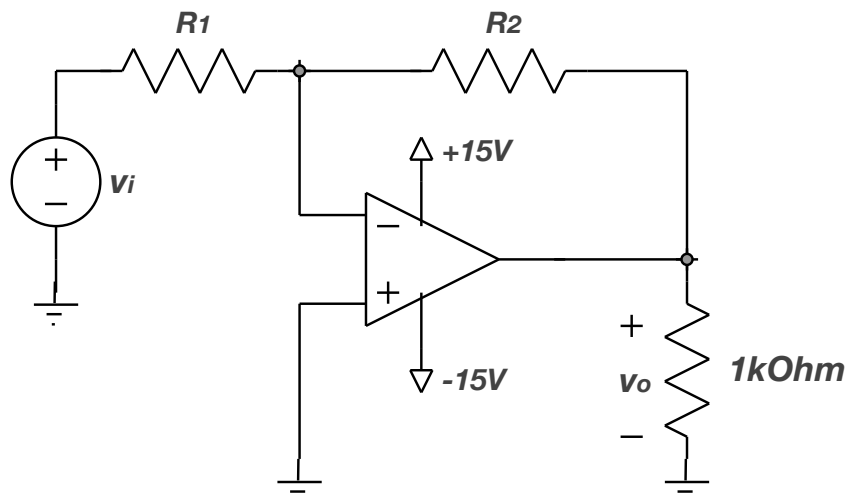

Figure 4. Inverting operational amplifier.
The circuit shown in Fig.4 will be used to simulate the operation of the inverting operational amplifier. As the ideal op amp use the macro model of OP37 op amp with the power supplies of  $V_{CC} = +15\text{ V}$  and  $V_{EE} = -15\text{ V}$ .
- Choose the values of  $R_1$  and  $R_2$  resistors to implement the inverting operational amplifier shown in Fig.4 with the closed-loop voltage gain of  $A_V = -5\text{ V/V}$ .